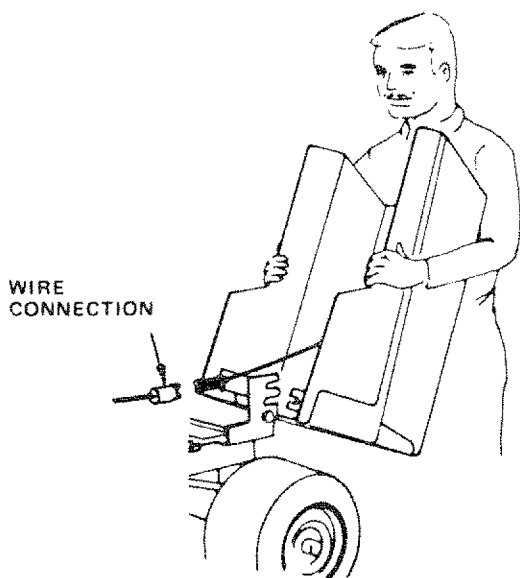

FIGURE 37
- Lift hood. Disconnect headlight wiring connection (Fig. 37).
- Pivot hood and side panel forward and lift off tractor (Fig. 37).